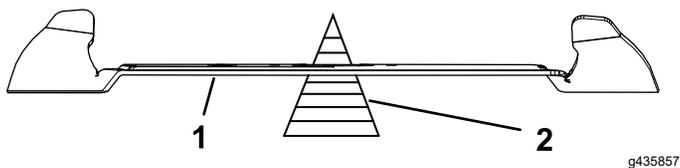

Figure 91
2. Check the balance of the blade by putting it on a blade balancer (Figure 91).
Note: If the blade is not balanced, file some metal off the heavy end of the blade in the sail area only (Figure 91).